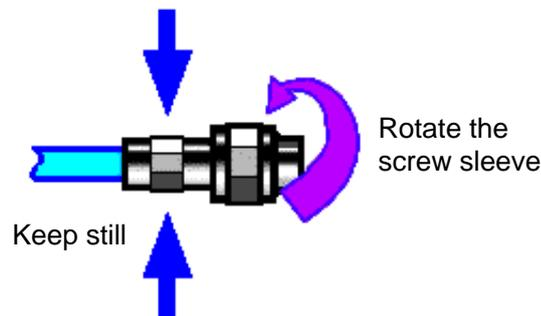

Figure 2.5 Connection method
**Step 2.** As shown in Figure 2.5, move the two connectors horizontally together so that they can be smoothly engaged. Rotate the connector bolt sleeves (not the connectors themselves) until tightened. There should be no relative rotation between the connectors during the connection.